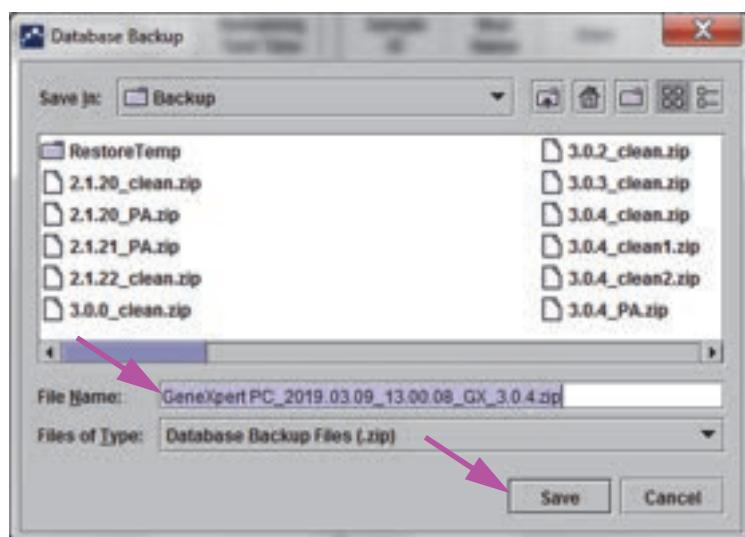

Figure 5-74. Backup File Naming
3. Locate and select the folder in which you want to store the backup file, type a name for the backup file (or use the default file name), and then click **Save**. The backup process creates a .zip file in the location you specified (see Figure 5-74).